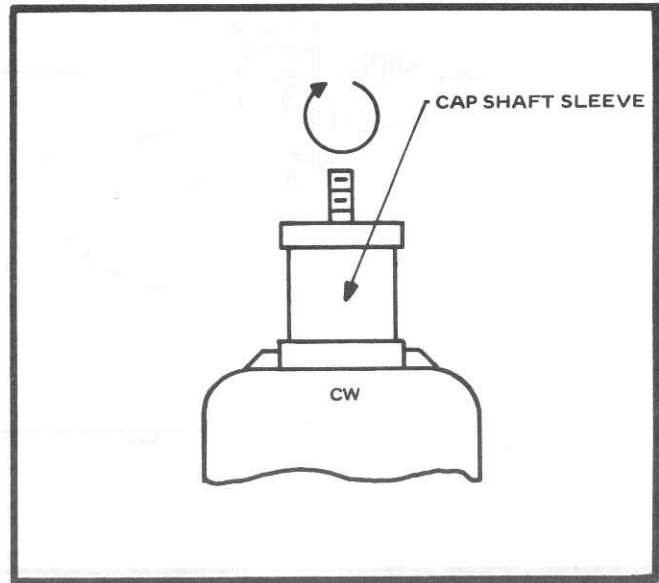

Figure 5.5 Vacuum Variable Capacitor (C-Min)
- 18) The capacitor should be towards the C-Min position (see Figure 5.5). Lubricate the sleeve with the cramolin liquid.